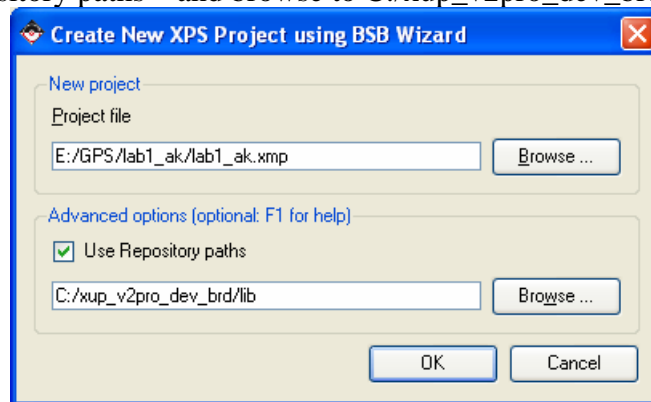

Figure 5: Create a New Project using Base System Builder
- Open Xilinx Platform Studio. Create a new project using Base System Builder. In the 'New Project' window, for the Project File, browse to a new lab1_xx folder in your Charlie directory and save the file name as lab1_xx. (Refer to figure 5).